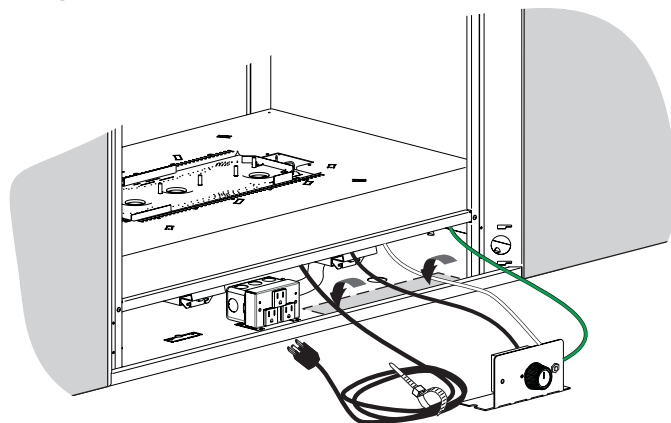

Figure 2
4. Set the rheostat control on the fireplace floor, with the rheostat bracket situated as far to the right as possible. **See Figure 2.**